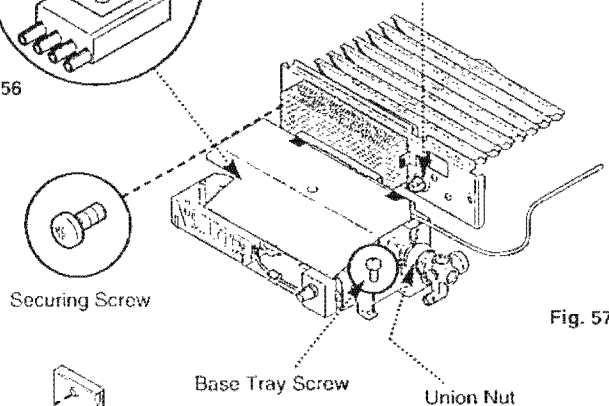

Fig. 57
3. Disconnect the union at the gas service tap and remove the fire feed pipe (Fig. 57).
8. Undo the two screws retaining the controls to the combustion box (Fig. 57).
9. Undo the screw holding the controls to the combustion box base tray (Fig. 57).